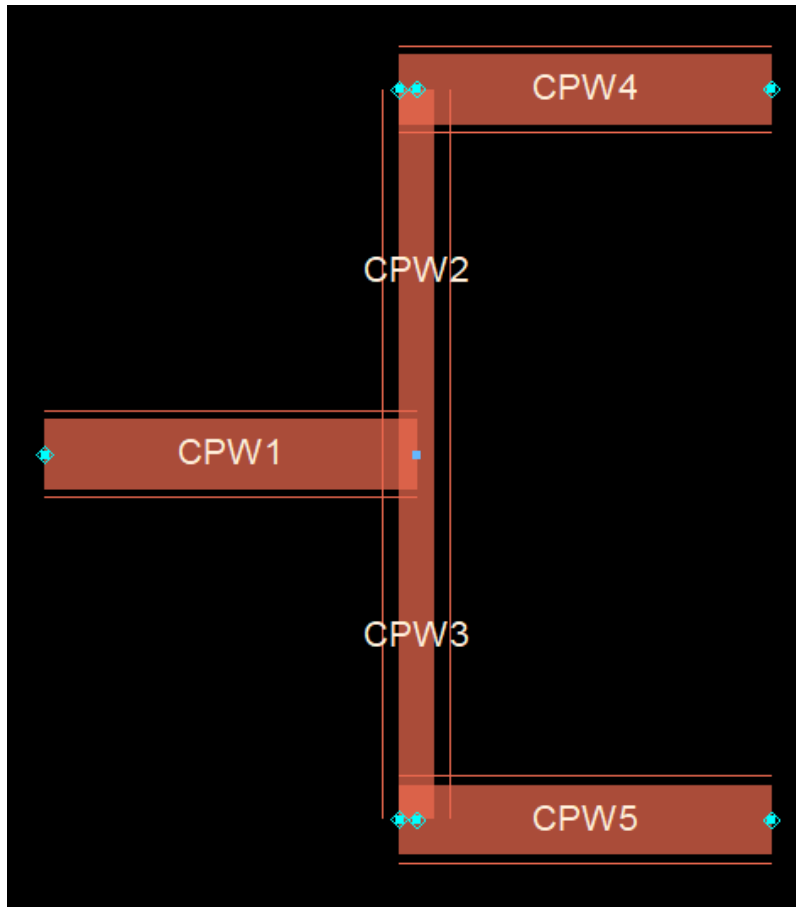

Figure 26. Layout of CPW lines
2. Create the structure in the layout window of ADS. It can be created using the **CPW** components available in the **TLines-Waveguide** library. Each of the waveguide components should be a quarter wavelength, as calculated in LineCalc. This is shown in Figure 26.